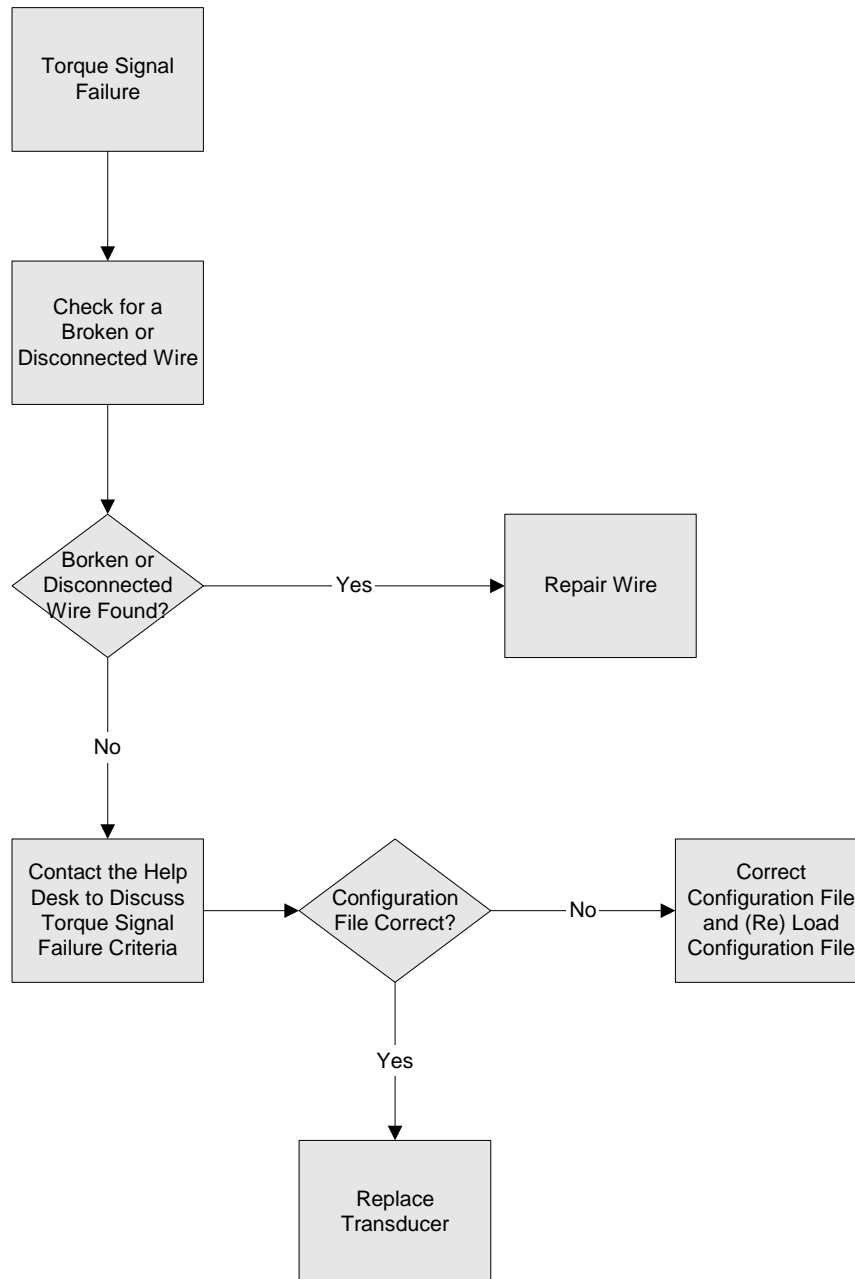

Figure 39: Torque Signal Failure Troubleshooting
- b. Transducer Signal Failure – Refer to Figure 39.